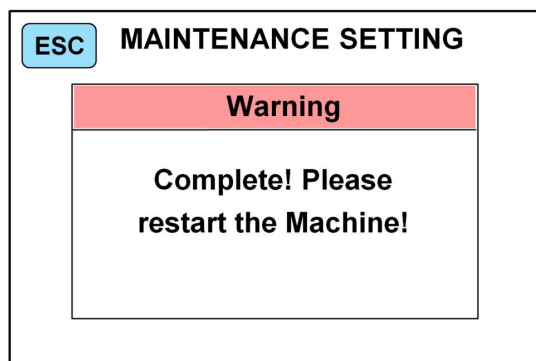

Figure 54
3) Click the “**OK**” key to restore factory setting, which will restore all other settings except the initial time & date setting to the initial state. Please restart the machine after restoring factory setting, as shown in Figure 54 below: